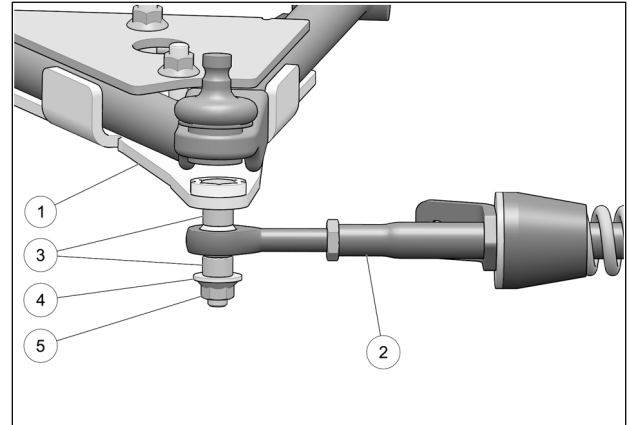

Fig. 14
- Attach the stabilizing rod (**2**) to the anchor bracket (**1**), using the two spacer bushings (**3**), flat washer (**4**) and nut (**5**). Torque to 70 N•m [52 lb•ft]. Refer to Fig. 14